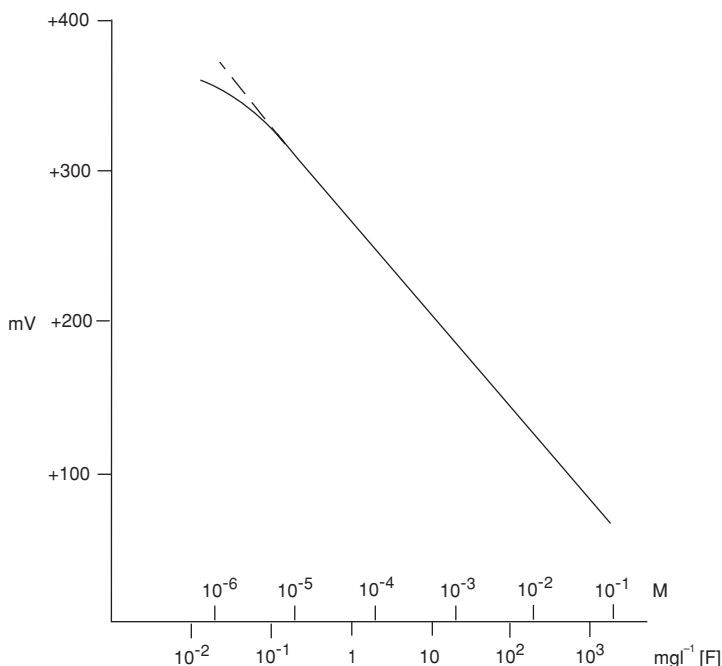

Fig. 3.1 Model 8001 Fluoride Electrode Calibration Graph
- 4) Prepare a calibration graph by plotting potentials on the linear axis or linear/logarithmic graph paper (see Fig. 3.1).